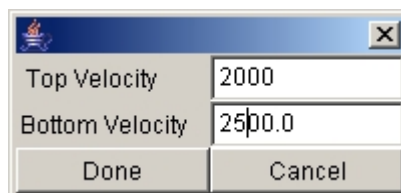

Figure 42: Window to enter values to calculate the new velocity gradient for the area to be tuned
- To enter a gradient, click the 'Gradient' button. The window shown in Figure 42 opens up